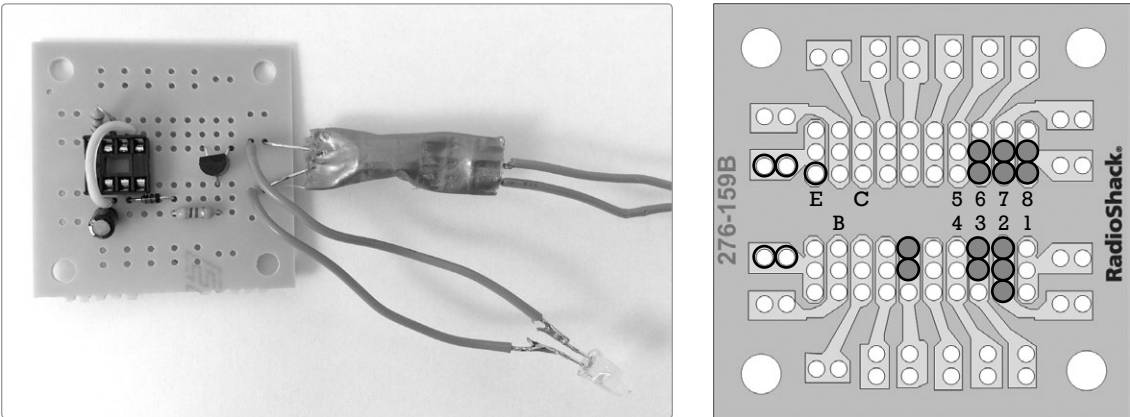

FIGURE 13-14: *The indicator and optocoupler LEDs*
Step 15 Now connect the indicator and optocoupler LEDs to the rest of the circuit. Insert the negative LED leads into the pair of holes just below the PCB's centerline, at the right edge, and the positive leads into the pair of open holes just above the centerline. (In Figure 13-14, the lower set of leads are the negative ones, and the upper pair are the positive.) Solder all four leads to their respective solder pads now. Also, solder the transistor lead closest to the LED leads (the *emitter*, marked with an *E* in the illustration) to its solder pad.